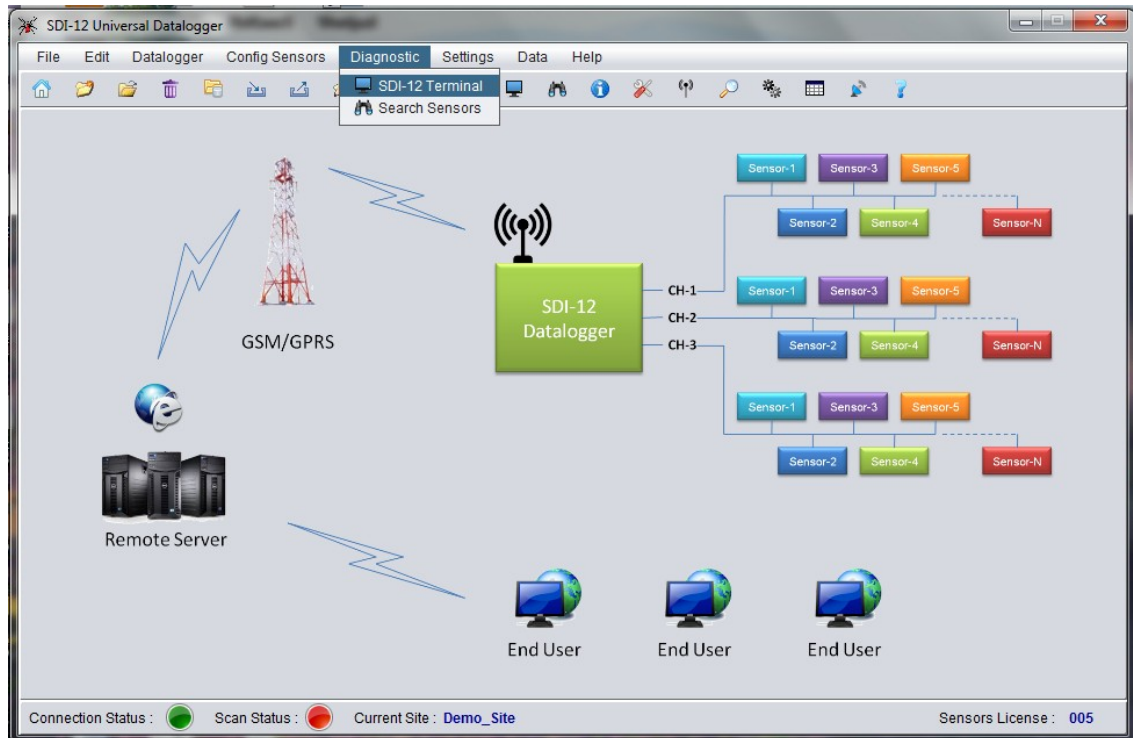

Figure 24 Assigning ID to SDI-12 sensor
- 7 Connect a single sensor to any Channel of the Datalogger physically. Click “Diagnostic” followed by “SDI-12 Terminal” to the set the ID of the sensor as shown in figure 24 below.